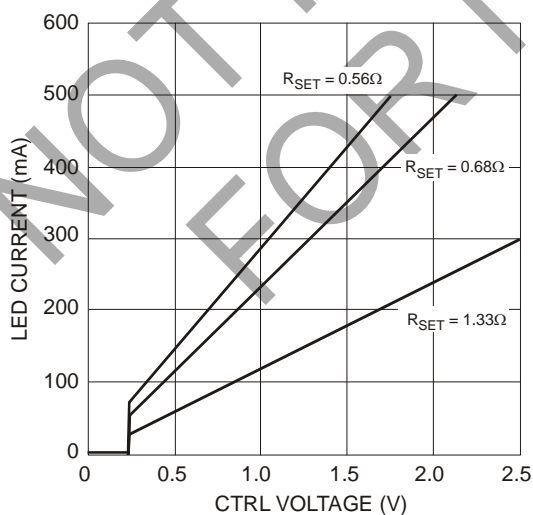

Figure 6 LED Current vs. V_{CTRL}
- Refer to figure 6 for the device derating curve.